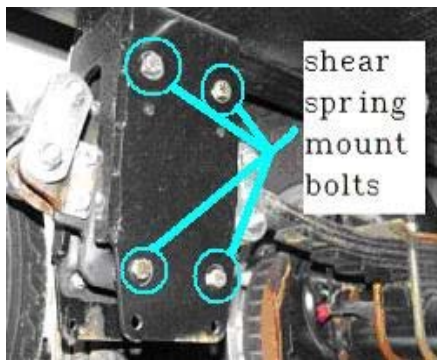

Fig.1
Step 1 On the inside of the center Mor-Ryde spring hangers remove 3 of the 4 rubber spring mounting bolts. Be sure to leave the same bolt installed on each side. See figure 1 and 2.